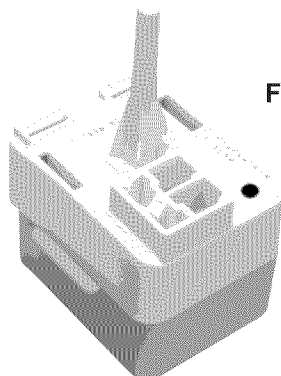

FIG. 2
6. This kit contains two styles of start relays. Note: If the compressor has been changed from the original or has a separate relay, see Style 2. **Style 1:** Combo (direct replacement), See Figure 2